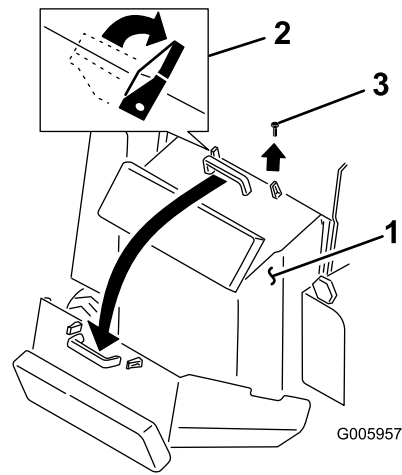

Figure 25
2. Release the two locking tabs on top of the rear access cover (Figure 25).
3. Remove the bolt located next to the right locking tab (Figure 25).
4. Grasping the handle, pull the cover up and back to swing it open (Figure 25).